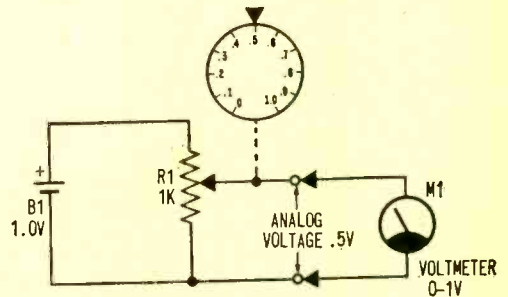

Fig. 1. Hypothetical circuit showing how potentiometer can convert number into voltage analog. Dial calibrations represent any desired quantity.
Voltage Analog. An ordinary potentiometer will help us see how a number can be converted into a voltage analog. Fig. 1 shows a simple circuit of a potentiometer, R1, connected in series with a battery, B1. Rotating the dial on the shaft of R1 causes the pot wiper to "pick off" a voltage proportional to the dial setting.
In Fig. 1 the dial is calibrated from zero to one, and the voltage supplied by the battery is 1.0 volt. Thus, in this particular instance, the dial setting indicates the voltage
Multiplying. In Fig. 1, a voltage analog for the number 0.5 was developed at the wiper of R1. It can also be said that the supply voltage across R1 was multiplied by
0.5. Thus, 1 V times 0.5 will be 0.5 V. If a voltage other than 1 V were supplied by B1 in Fig. 1, we would be multiplying the supply voltage by the dial setting.
Fig. 2. Addition of second potentiometer to hookup in Fig. 1 results in circuit which can multiply. Voltmeter M1 now indicates analog voltage $A \times B$ rather than analog voltage A only.